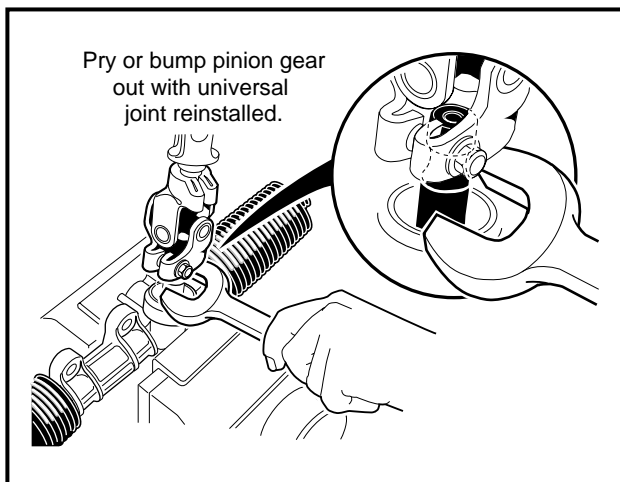

Figure 7-9 Remove Pinion from Housing
10. Install the universal joint onto the pinion and place a large open end wrench under the universal joint (**Figure 7-9, Page 7-8**). Use the wrench as a lever to pull the pinion from the housing.